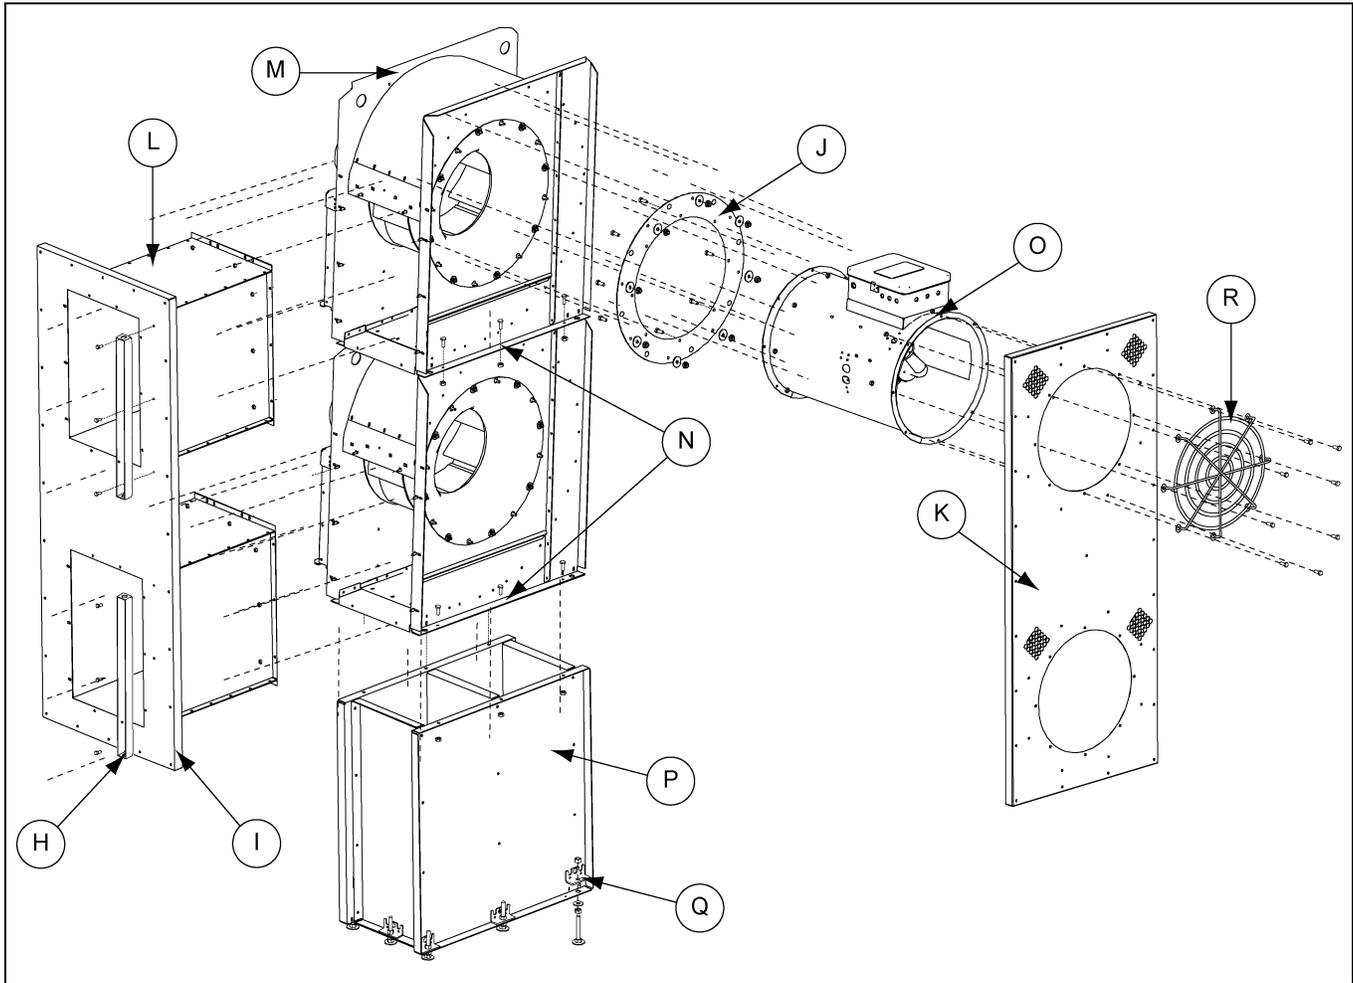

Figure 6M
6. Attach the exhaust extension assembly to the fan housings using ten (10) 5/16" x 3/4" flange bolts (C) and 5/16" flange nuts (D) per each duct. (See Figure 6M on Page 40.)
7. Follow **inlet** mounting plate rough opening detail on Page 18 and attach inlet mounting plate (K) to the building using 3/8" x 3" lag bolt (S-9046). (**NOTE:** Different hardware may need to be used depending on the type of building materials used.)
8. Remove grills from fans and attach heater mounting plates (J) to the fan housings using the hardware that held the fan grills. (See Figure 6M on Page 40.)
9. Attach the heaters to the heater mounting plates (I) using eight (8) 5/16" x 3/4" flange bolts (C) and 5/16" flange nuts (D) per each heater. (See Figure 6M on Page 40.)
10. Attach the heaters to the inlet mounting plates (K) and grill guard (Q) using eight (8) 5/16" x 3/4" flange bolts (C) and 5/16" flange nuts (D) per each heater (O). (See Figure 6M.)